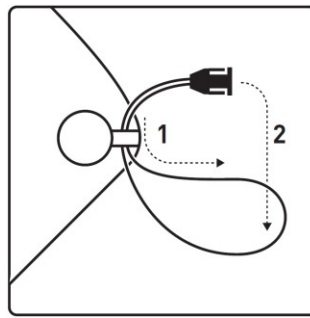

Fig. 13. How to adjust the neck lanyard
Attach each of the two end loops of the neck lanyard to the attachment holes (1) of the recorder and connect the neck lanyard to the adjustment clips (2) supplied. Finally adjust the length of the neck lanyard (Fig. 13) to suit your needs.